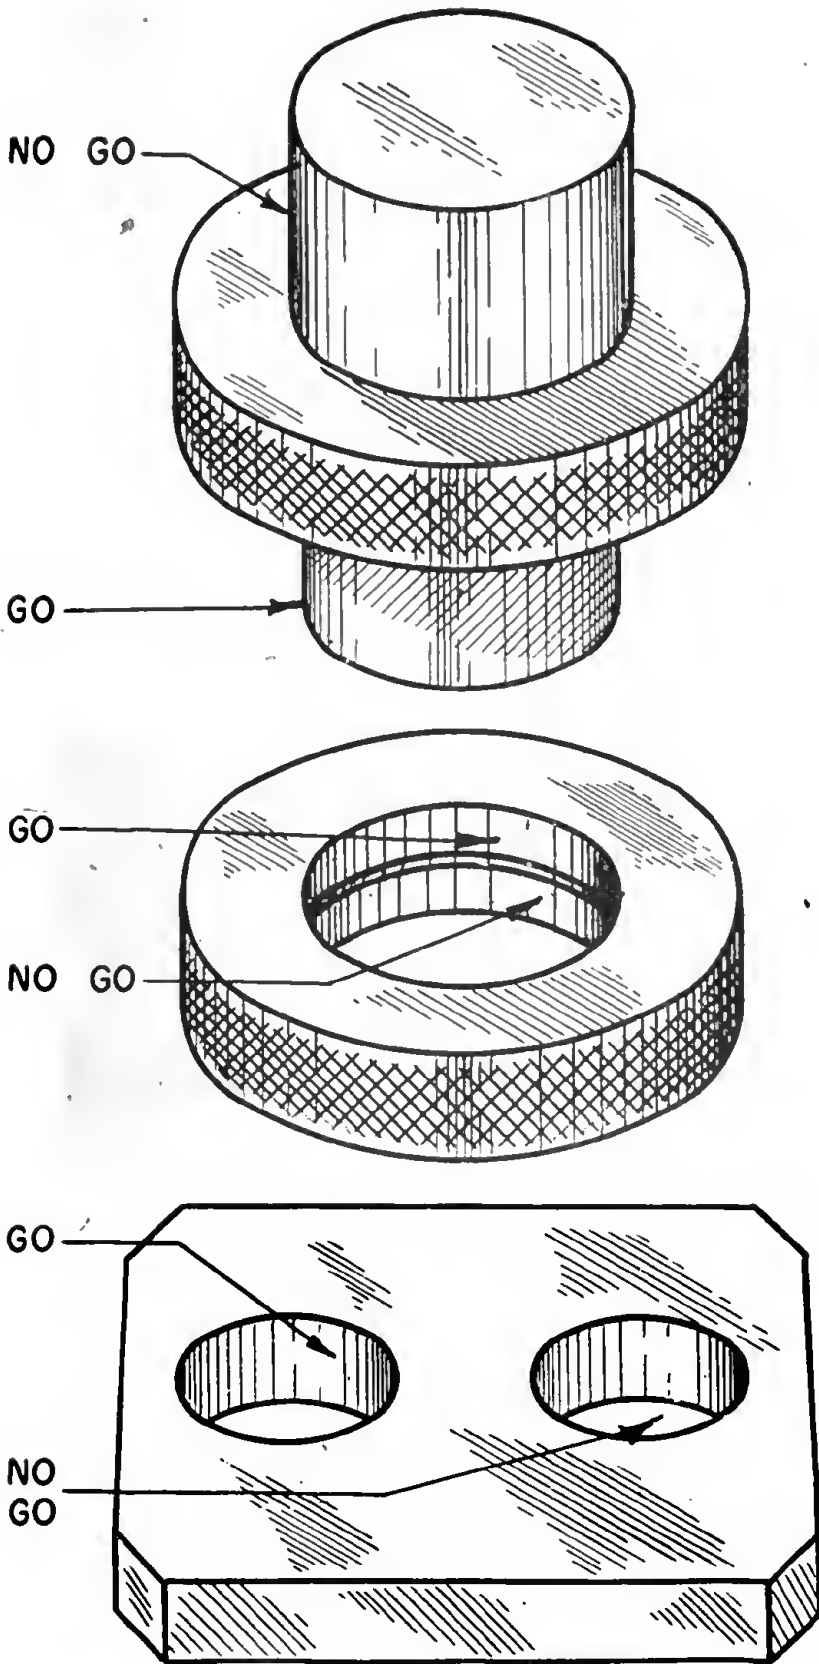

Figure 64. Go, no-go gauges.
i. GO, NO-GO GAUGES. Go, no-go gauges are used mostly in production work. One end is the go end and it should fit the machined part. The other is the no-go end and it should not fit. If the go end fits and the no-go does not, the part is within the specified tolerance. Two types of go, no-go gauges are shown in figure 64.